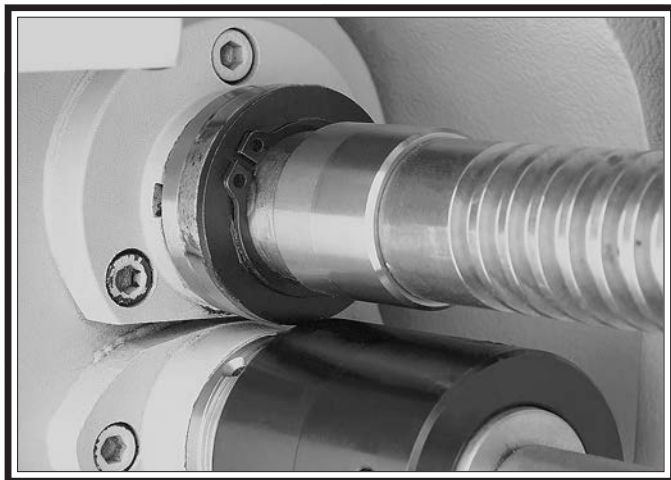

Figure 134. Retaining ring positioned with ears in front of pin access groove.
10. Return the retaining ring against the shroud washer and position the retaining ring ears over the shear pin head, as shown in **Figure 134**. This will prevent the shear pin from falling out if the shroud washer should rotate during operation.